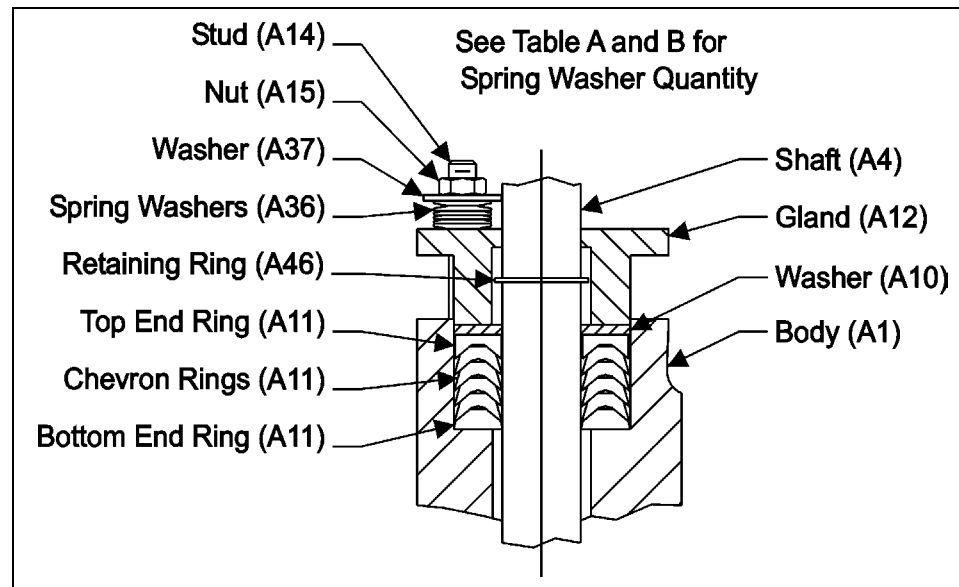

Figure 5 — Packing Option (TCL)
- a. Place the packing in the body, one ring at a time, in the configuration shown in Figure 5—do not lubricate.